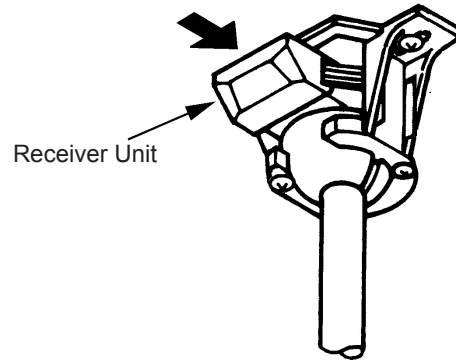

Figure 5.8
Step 8. Carefully turn the connecting nuts upward and push the wiring into the electrical outlet box. There should be space to allow the Receiver Unit to slide in above the Downrod Ball. (Fig. 5.8)